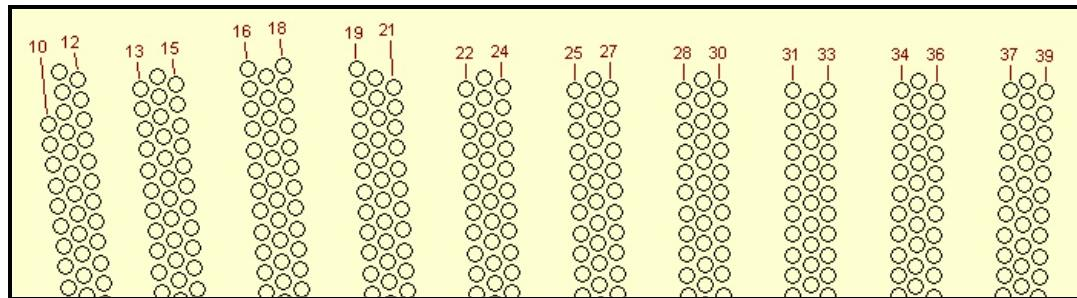

Figure 38. Groups of Tubes Beginning With a First Row Other Than '1'
- **First Row:** Enter the row number of the first row in the group. The default is '1' (one); however, additional groups may begin with a row number other than '1' (one). In Figure 38, ten (10) groups of tubes are shown, all assigned to the same section. Note that each group begins with a different **First Row** number. Figure 38 is a portion of a complex main condenser tubesheet map, which was captured from the main **MakeComp** window.
- **Group Angle:** This parameter allows the user to rotate a group to any desired angle. This feature is especially useful when building complex tubesheet maps such as main condensers containing steam lanes at a variety of angles. If no rotation is desired, set the field to '0' (zero). In Figure 38, each group shown is rotated about 1° from the adjacent group. Furthermore, note that the general direction of the rows is vertical and numbered from the top to the bottom.